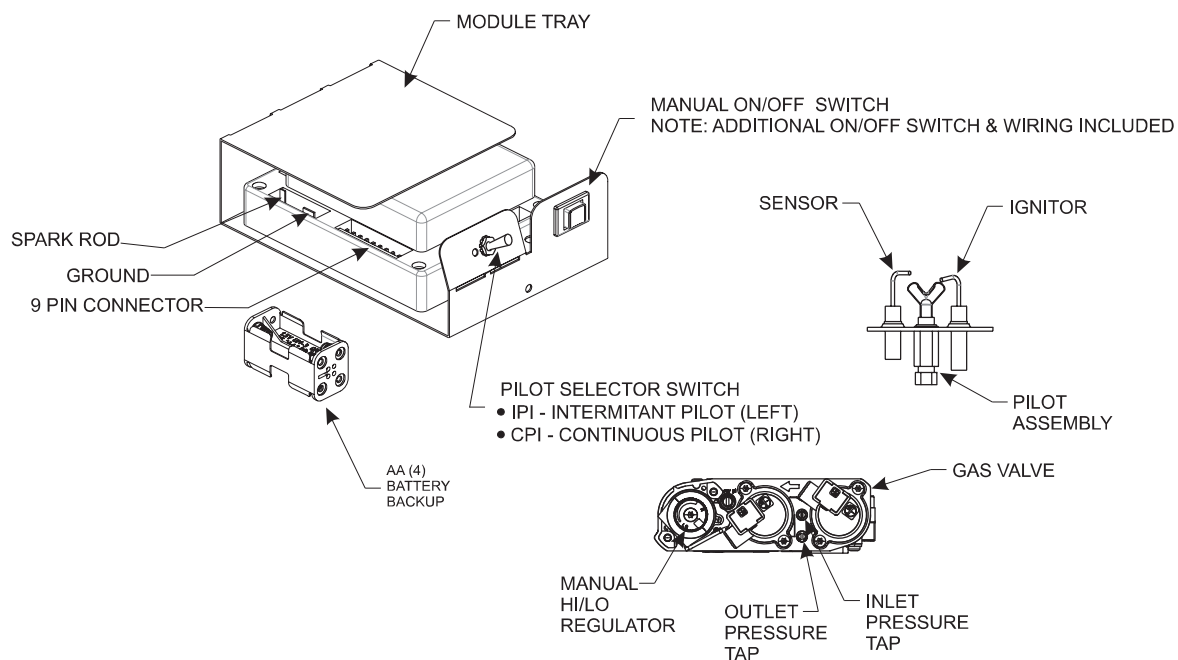

Figure 75
See **Figure 75**.
3. The gas valve has inlet and outlet pressure taps as shown in **Figure 75**. Refer to pages 8 and 17 for gas pressure requirements.
NOTICE: The gas control has a manual HI/LO flame adjustment knob (regulator) that allows you to increase or decrease the height of the burner flame. See **Figure 75**. Rotate the HI/LO knob counterclockwise to "HI" to increase the flame height, and clockwise to "LO" to decrease the flame height.
To connect the remote receiver to the appliance, first disconnect the ON/OFF switch wires from the white and green wire connectors and connect the wires from the remote receiver to the green and white wire connectors. See **Figure 75**.